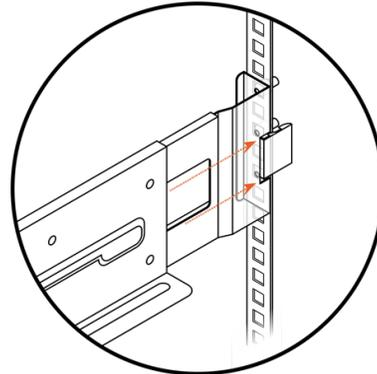

Figure 16-3. Installing a Rail (Rear Post)
3. Extend the rear of the rail until the locating pins or positioning studs reach the rear mounting post, and press the rail into the rear post until the latch engages. See Figure 16-3 (left rail shown).